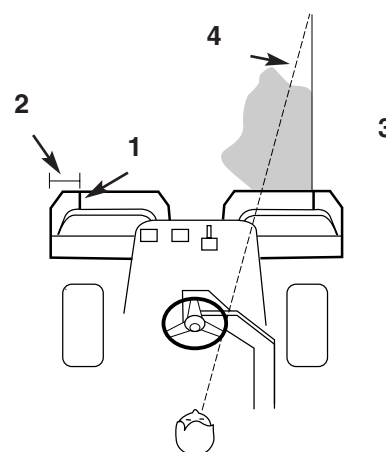

Figure 10
2. Either place a strip of white tape or paint a line onto each basket paralleling the outer edge of each basket (Fig. 10).